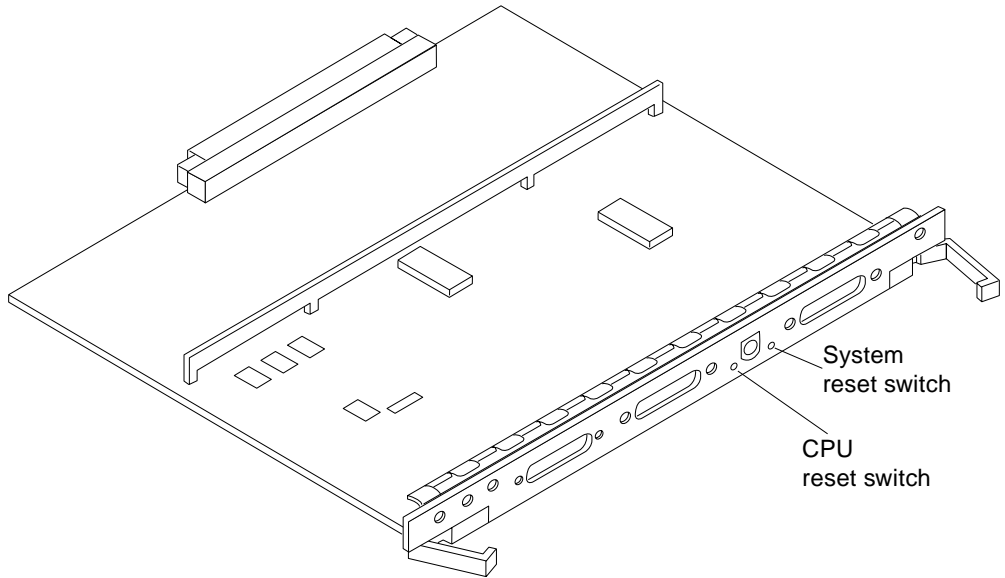

FIGURE 3-3 CPU Reset Switch on Clock+ Board
7. To restart firmware, or if the system hangs, press the CPU reset switch on the clock+ board (FIGURE 3-3).